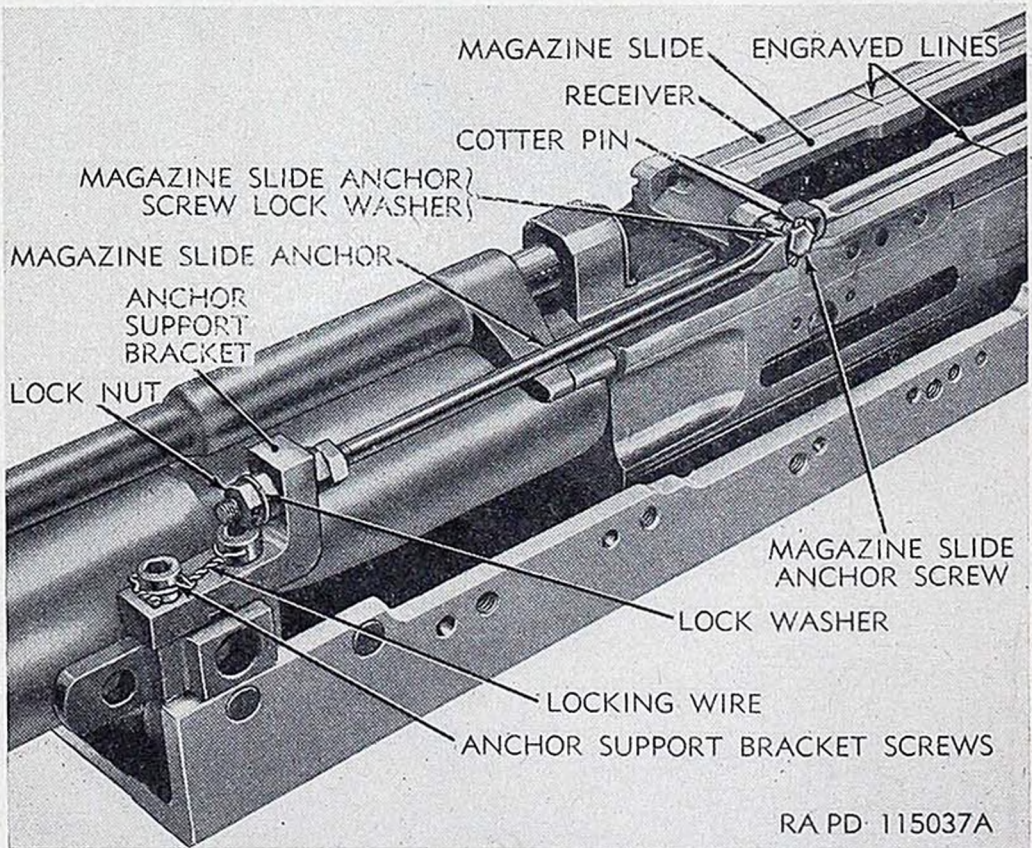

Figure 33. Installation of magazine slide anchor and support bracket on left side.
- (c) Install the anchor support bracket on the left-hand trunnion block, with horizontal arm of the bracket pointing toward the muzzle end of the gun. Use two anchor support bracket screws to fasten the anchor support bracket and secure the screws with locking wire (fig. 33).
- (e) Fasten the magazine slide anchor in place with the magazine slide anchor screw, magazine slide anchor screw lock washer, and cotter pin (fig. 33).
- (*c*) Install the anchor support bracket on the right-hand trunnion block, with horizontal arm of the bracket pointing toward the muzzle end of the gun. Use two anchor support bracket screws to fasten the anchor support bracket and secure the screws with locking wire (fig. 33).
- (*e*) Fasten the magazine slide anchor in place with the magazine slide anchor screw, magazine slide anchor screw lock washer, and cotter pin (fig. 33).